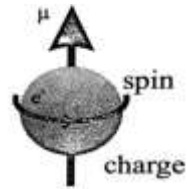

Fig. 6.22
- In other words, electrons can rotate either clockwise or anticlockwise around its own axis with constant frequency (as in Figure. 6.22).